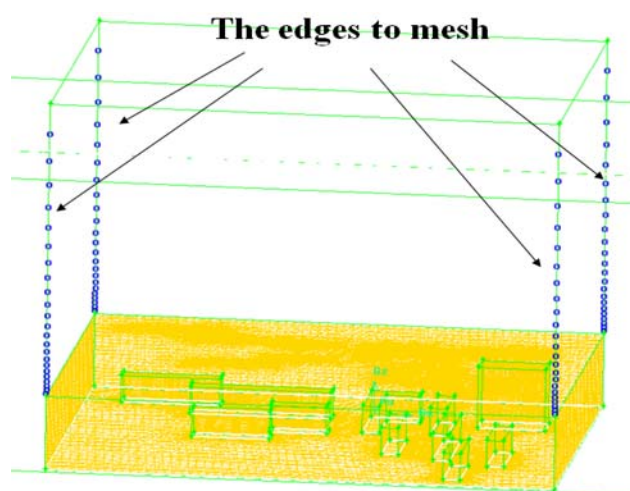

Fig. 39 The edges to be meshed.
(1) To mesh the volume, the first step is to mesh the four vertical edges of the volume, see Fig. 39.
- ① Click pad 'Mesh'
- ② Click pad 'Edges'
- ③ Mesh Edges
- ④ Select the four edges see Fig. 39.
- ⑤\* Key in a successive ratio of 1.1.
- ⑥ Key in an average interval size of 10.
- ⑦ Apply